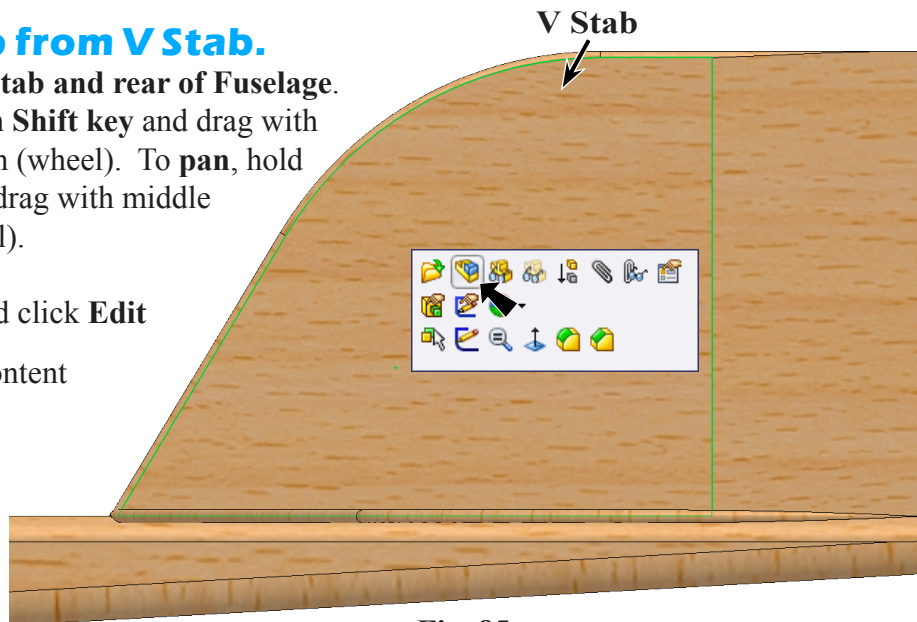

Fig. 85
Step 2. Click the **V Stab** and click **Edit Part**  on the Content menu, **Fig. 85**.